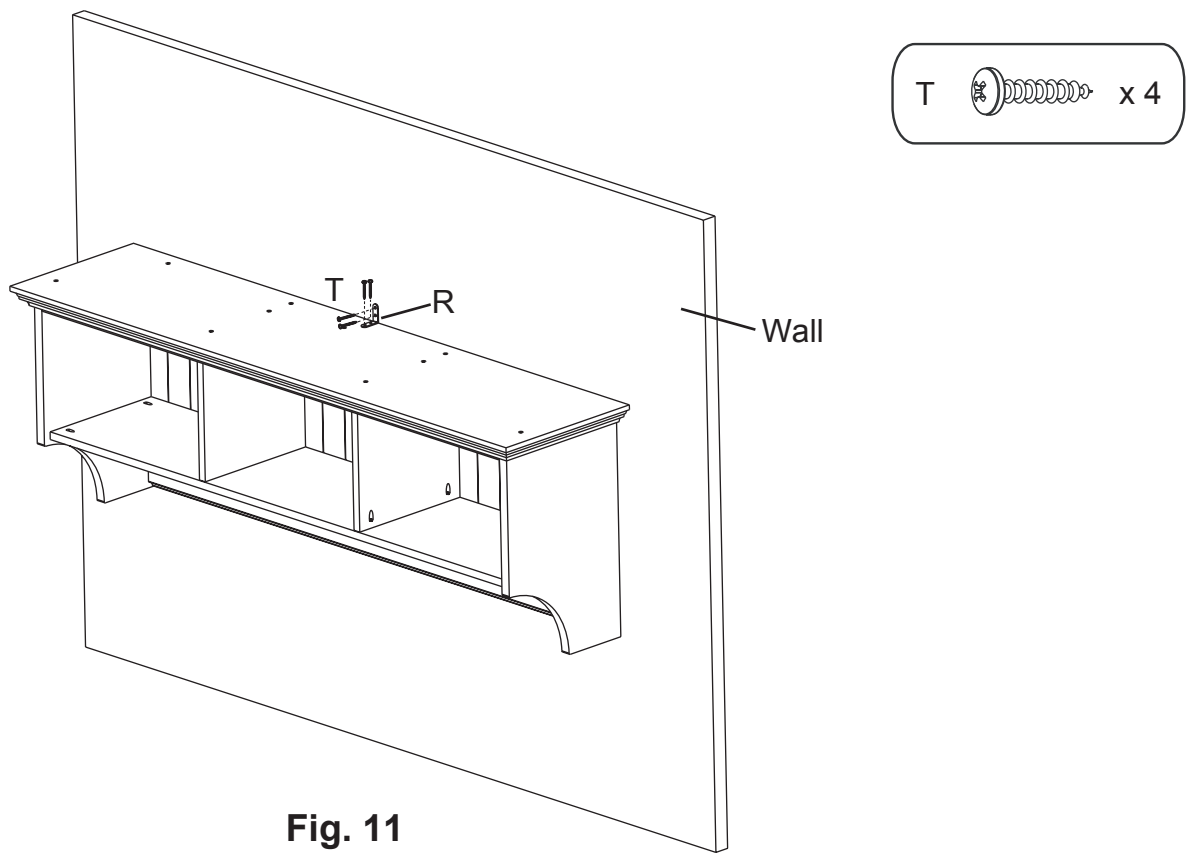

Fig. 11
11. Locate a stud in the wall and make a faint mark on the top of the shelf assembly. This will be where you attach the Angle Bracket (R). Take the shelf down from the wall and attach the Angle Bracket (R) to the storage shelf with two #8x1-3/16" Pan Head Screws (T). Replace the storage shelf on to the wall and secure the Angle Bracket to the wall with two #8x1-3/16" Pan Head Screws (T). See Figure 11.